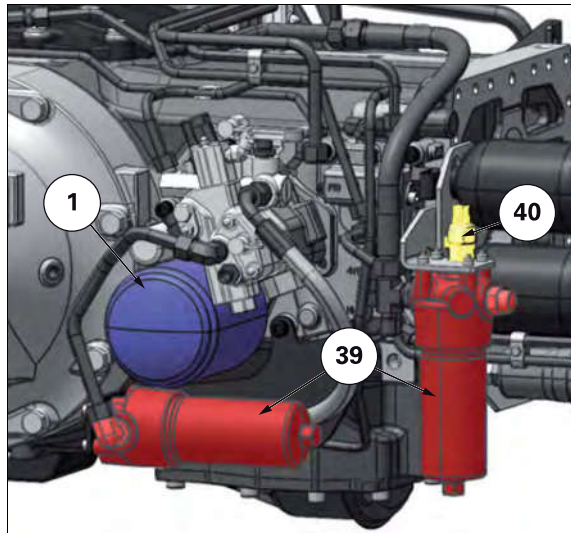

Fig. 2.
These two systems are supplied by a two-stage gear pump (1) which is fitted on the internal face of the right-hand hydraulic cover plate. The pump sucks transmission oil from the common tank formed by the centre housing and the gearbox through a 150 micron filter (1) (*fig. 2*), also fitted on the cover plate.